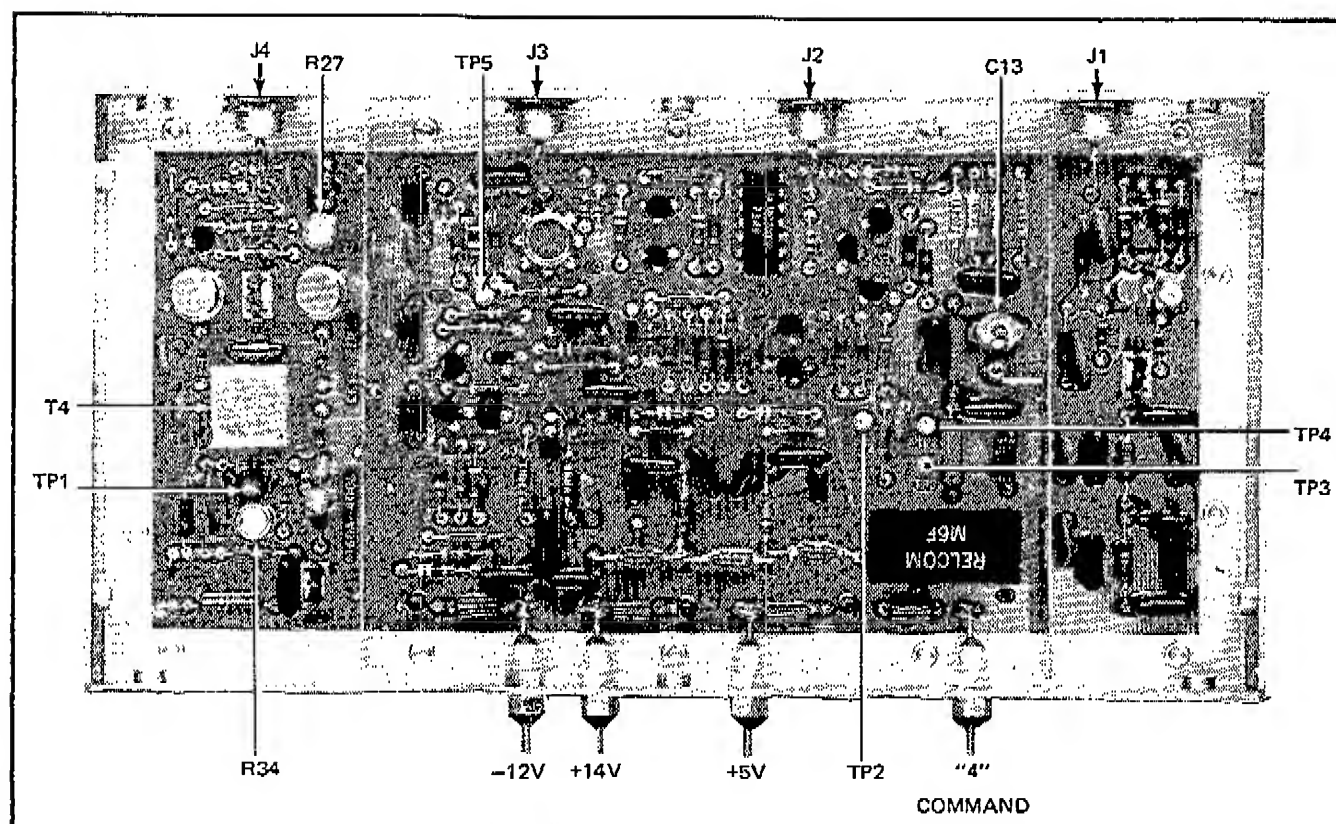

Figure 4-15. ADJUSTMENT, TEST POINT, INPUT/OUTPUT CONNECTOR LOCATIONS (6160A-4106-1)
- c. Signal Generator (2).
- 4-66. Figure 4-15 shows adjustment, test point, and input/output connector locations on the 10 MHz D. U. Step Loop P. D. module. Alignment is as follows: